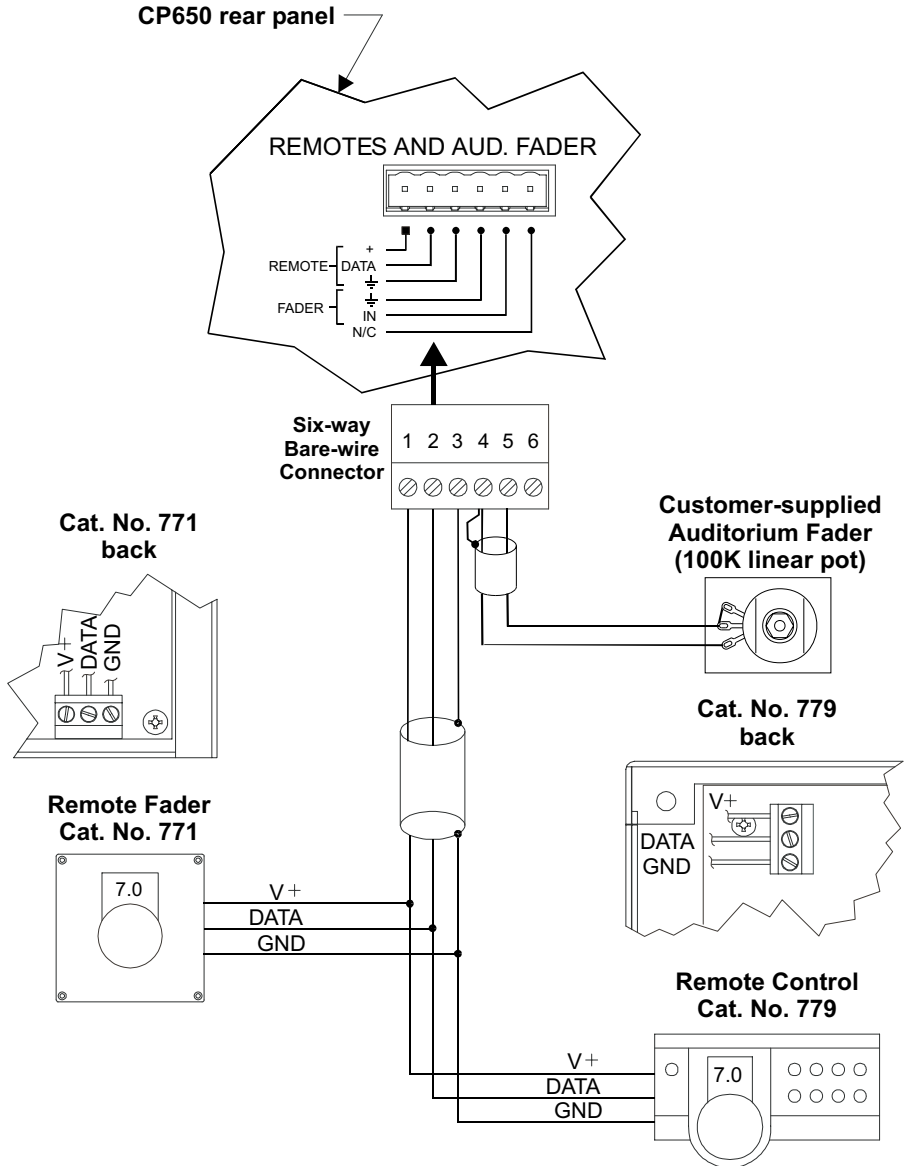

Figure 2-4 Connections of Remotes to the CP650
1. Connect the interface cable to the green six-way bare-wire female connector (shown in Figure 2-4) that came with the CP650.
2. Plug the connector into the **Remotes and Aud Fader** connection port on the CP650 as shown in Figure 2-4 on the following page.
3. Thread the interface wire and attach the +voltage, data, and ground wires to the interface connector as shown in Figure 2-4.